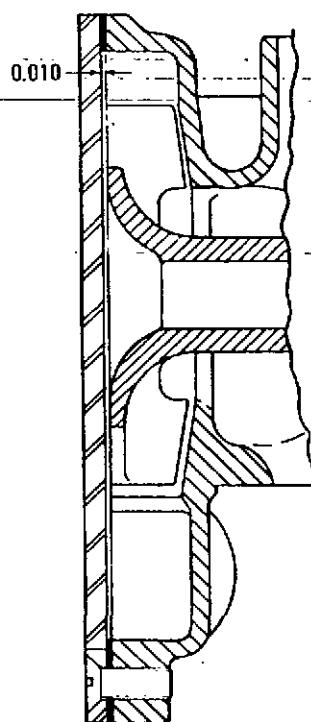

Figure 5-9. Water Pump Impeller Installation Dimension
3. After installing retaining ring (23), support the pump shaft on the outer shaft end and press the impeller (28) onto the shaft. There must be 0.010-inch clearance between the impeller and a straightedge placed across the rear face of the pump body. See figure 5-9.